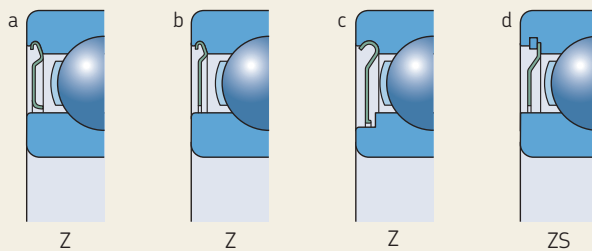

Fig. 7
- form an extremely narrow gap with the inner ring shoulder (fig. 7)